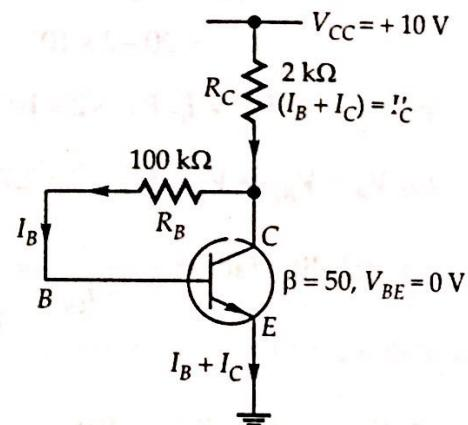

Figure 5.36
**Example 5.16** In a collector feedback bias shown in Fig. 5.36, determine (i) position of Q-point and (ii) stability factor S.